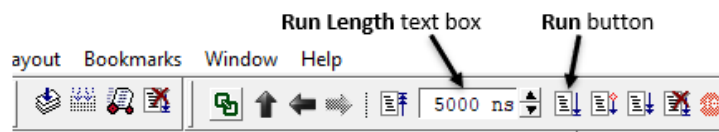

Figure 6.8: Run Length text box and Run button
6. Press **Run**  button to run the simulation. See figure 6.8.